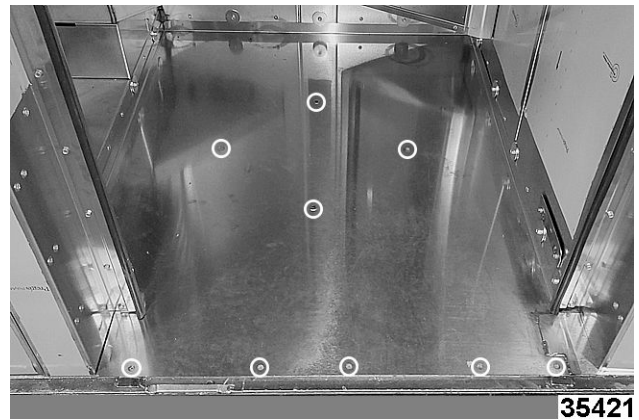

Fig. 36
- Anchor oven floor (9 places total) to facility floor (Fig. 36).